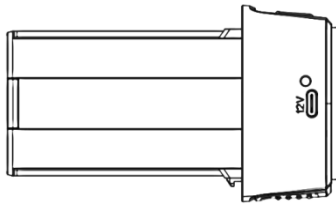

Figure 7-2
- 6) When the red light is on, it means charging is in progress, and when the green light is on, it means charging is complete ( as shown in Figure 7-2) .